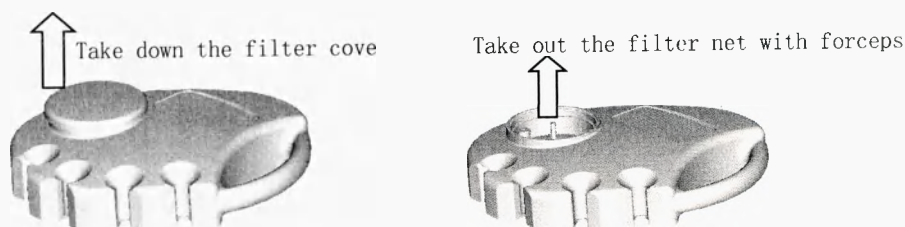

Figure 4-7 Suction filter on the assistant control board
4.1.3.3 The methods for cleaning the suction filter on the assistant control board: Take up the suction filter cover, take out the filter net with forceps, and wash with water, then place back as before. (Figure 4-7)
Take up the scaler from the holder and tread the pedal switch and the scaler begins to vibration then it is ready to be used. Make sure water supply otherwise the scaler will be damaged. The water can be controlled (refer to figure 4-7), the power